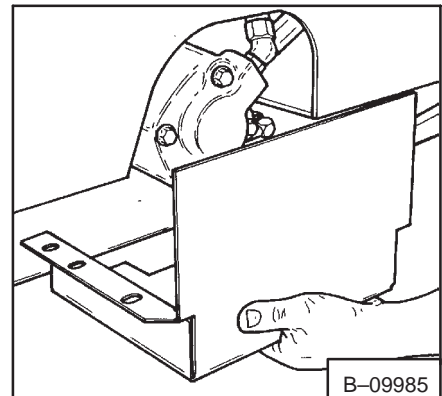

Fig. 3-33 Removing Motor Cover
7. Remove the motor cover (Fig. 3-33).
4. Remove the motor cover (Fig. 3-33).